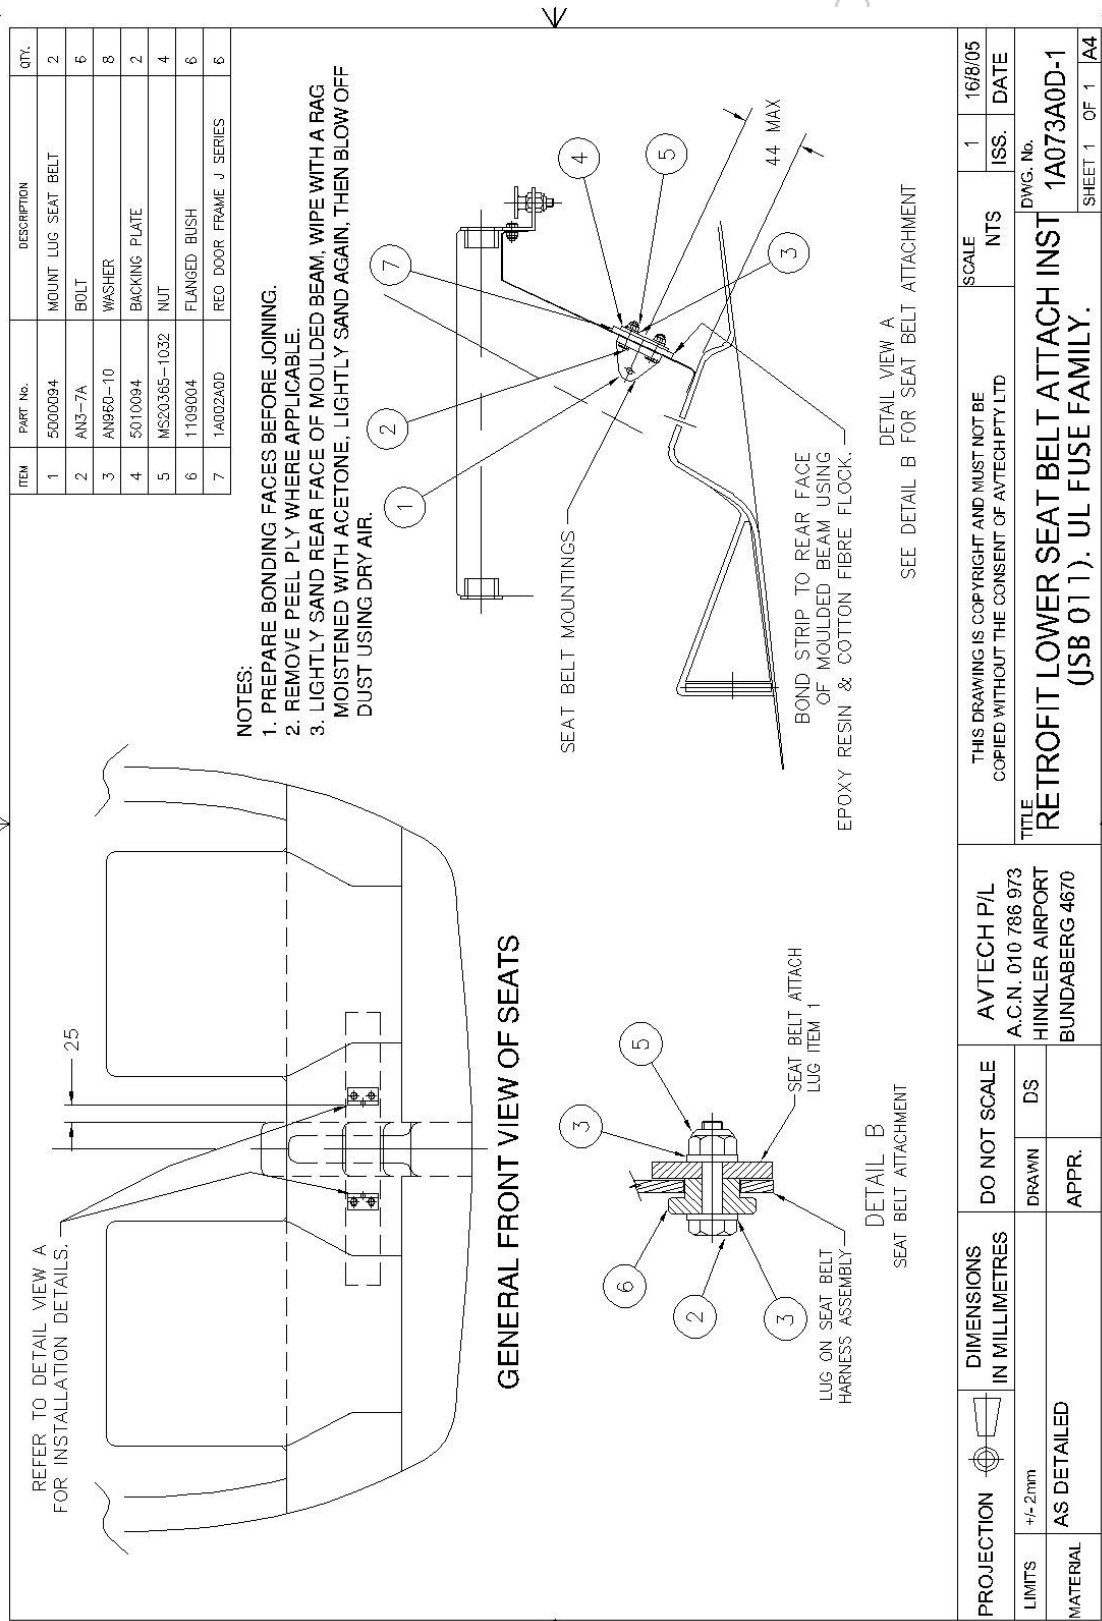

Figure 3. Seat Belt Attachment Installation Detail
- x) Prepare the bonding surfaces of the reinforcing plate and the moulded beam. (Refer to details given in Figure 3 below).